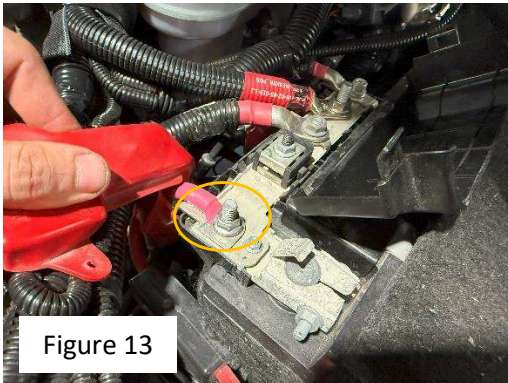

Figure 13
11. Remove the red wire from the stud (Figure 13)